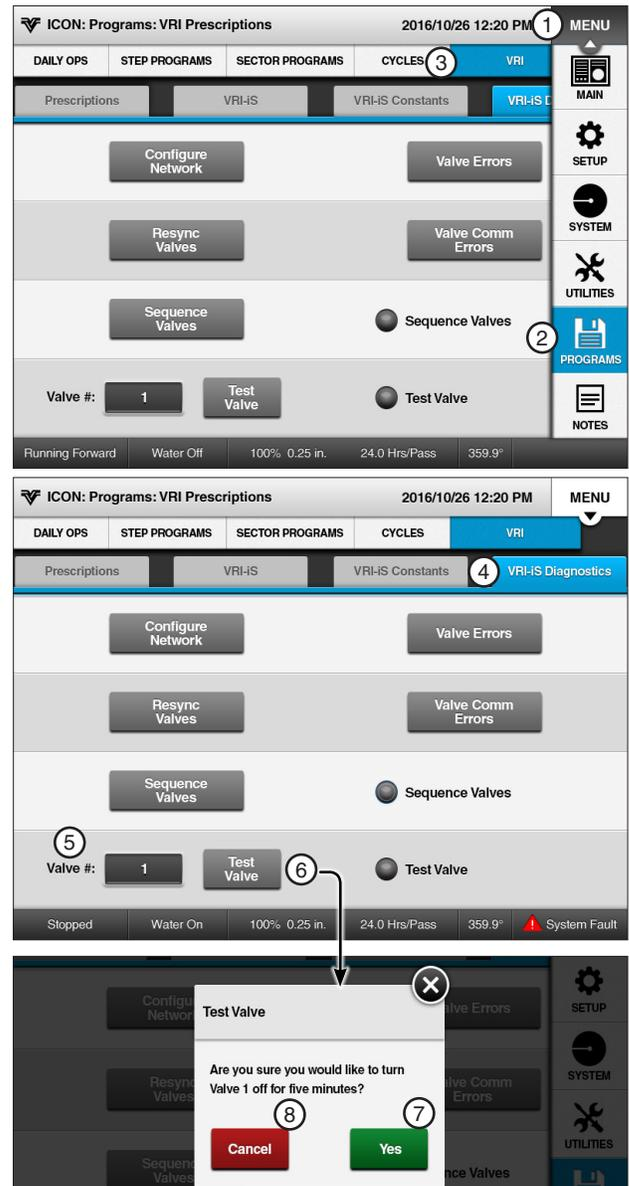

Figure 181-1 1. Menu 5. Valve #
1. Push **Menu**, **Programs**, **VRI** and **VRI-iS Diagnostics** to display the VRI-iS diagnostics screen. Refer to Figure 181-1.